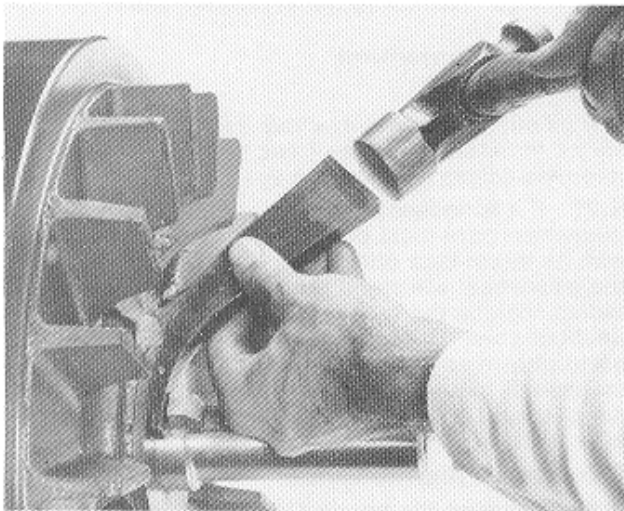
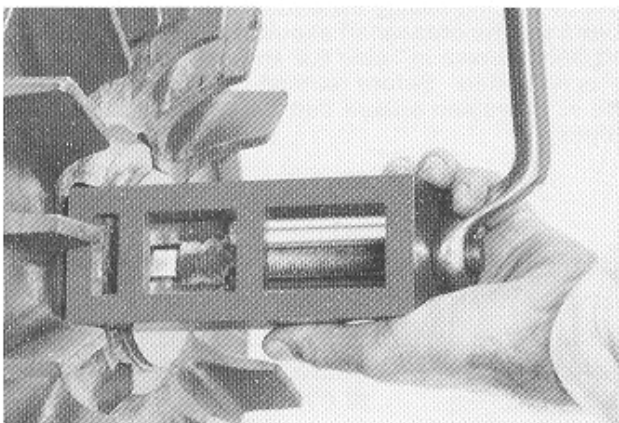

Figure 5.15
Figure 5.16
**5.22** Withdraw the flywheel key with a tapered key drift (Figure 5.15) or special extractor (Figure 5.16), both of which are obtainable from Petter Limited or their representatives. It is advisable to support the head of the key by placing a spacer in the key way of the reduced portion of the crankshaft during removal. This stops the key from bending and digging into the crankshaft on removal.
- (1) Remove the cylinder head (Paragraph 5.3), cylinder and connecting rod (paragraph 5.14).
- (2) Remove the flywheel (Paragraph 5.22).
- (3) Remove the gear cover. The gear cover is dowed to the crankcase.
- (4) Remove the bolt and gearwheel retaining plate from the gear end of the crankshaft. Replace the bolt in the end of the crankshaft to prevent damage to the threads; withdraw the gearwheel using an extractor. (Figure 5.16). A special tool for this purpose can be obtained from Petters Limited or their representatives.